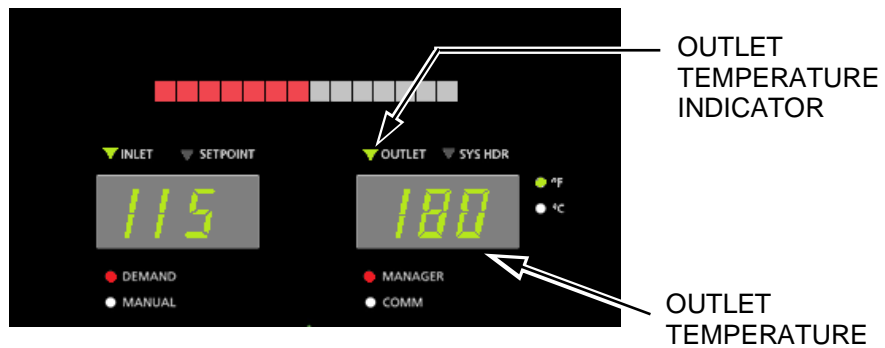

Figure 5-5b: Edge Controller Front Face
- b. Use the **Down** arrow to lower the setting to a temperature **below** the Outlet temperature displayed on the Controller’s front face (see Figure 5-5b).